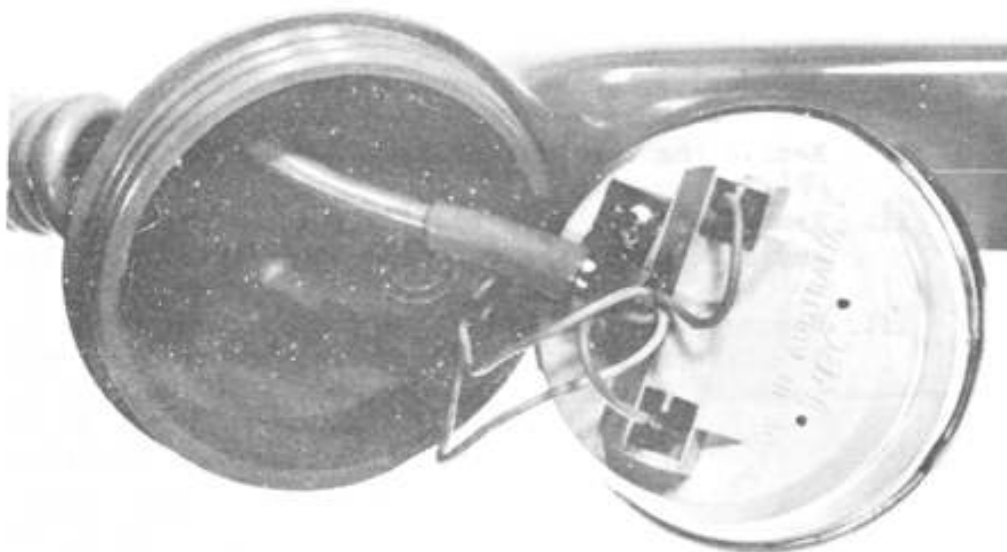

Fig. 5: Cord clamping position and Transmitter Connections, "early type" 800 Series Handsets
- iv. Secure the handset cord to the rear of the No. 20E transmitter using the cord clamp recovered from the No. 13 transmitter adaptor, and the self tap screw located in the blister pack with the No. 20E transmitter (see Fig. 5).